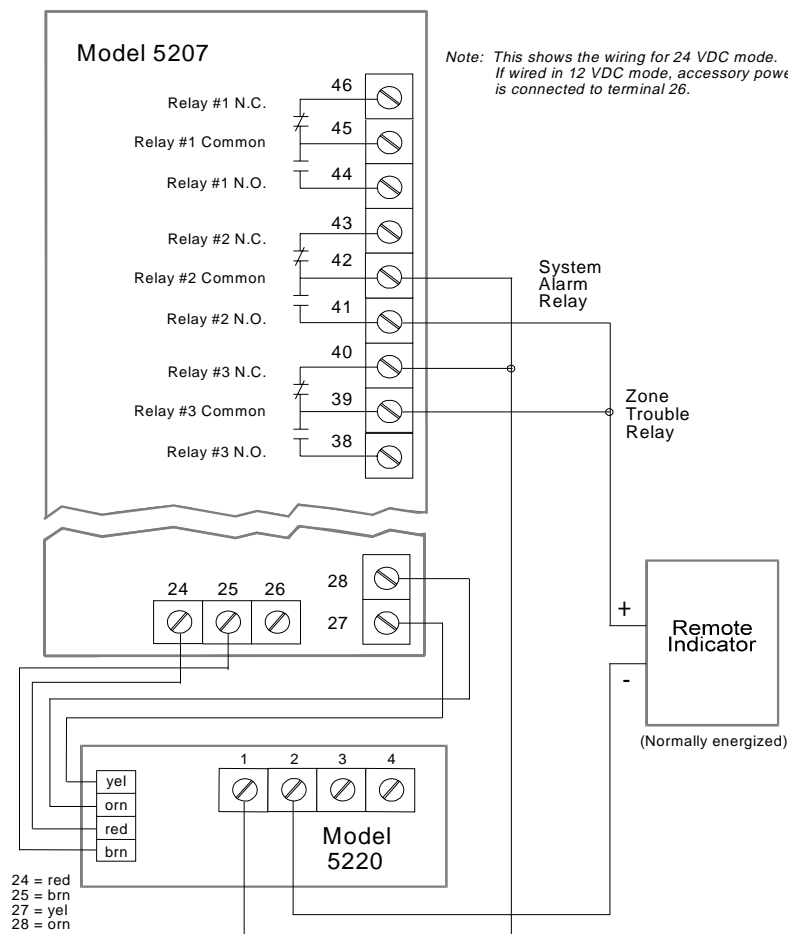

Figure 6-8. Wiring the Model 5220 For Supervision
Wire the 5220 to the 5207 as described in Section 6.4.3.1. For wiring the 5207 to the remote indicator, see Figure 6-8.
Follow the instructions below to enable the 5220 to report alarm and trouble events to the remote site. If wired and programmed properly, alarms will override trouble conditions and it will not be possible to reset the remote indication until the condition is cleared and the 5207 panel is reset. Figure 6-8 shows how to wire the 5220 for supervision.
- Program Relay 3 to activate for all trouble conditions and no silence. See Section 3.7. of the 5207 programming manual if using the 5521 Desktop Programmer. If using Step Programming with the 5230 Remote Annunciator (touchpad), select the following relays to program for an installation wired as shown in Figure 6-8: